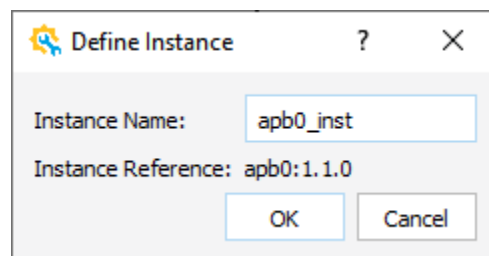

Figure 2.44. Define Instance Dialog Box
- b. Right-click on the desired component and choose **Instantiate**. The Define Instance dialog box (Figure 2.44) open.